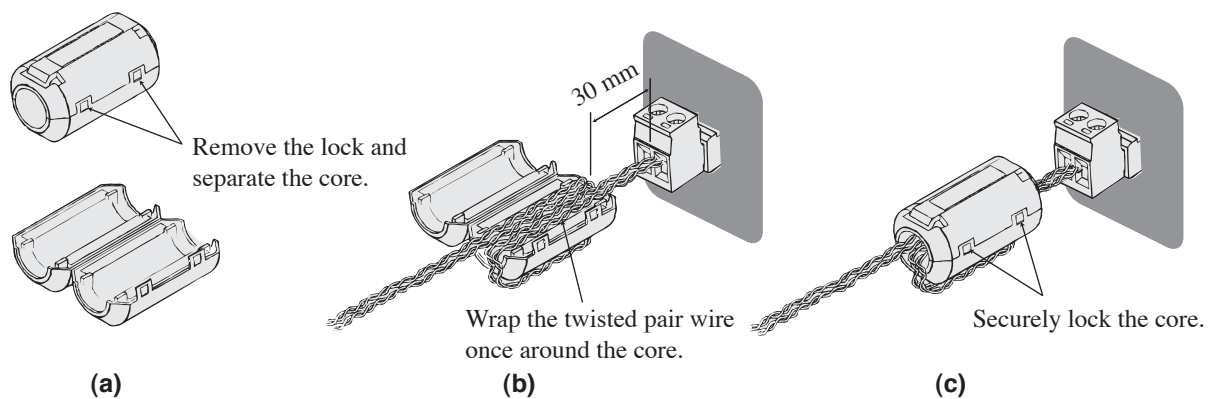

Fig. 1-12 TP-BUS Core Attachment
1. Remove the lock indicated in Fig. 1-12 (a) and split the core into halves.
Wrap the wire so that the distance between the core and the connector is within 30 mm. See Fig. 1-12 (b).
See Fig. 1-12 (c).